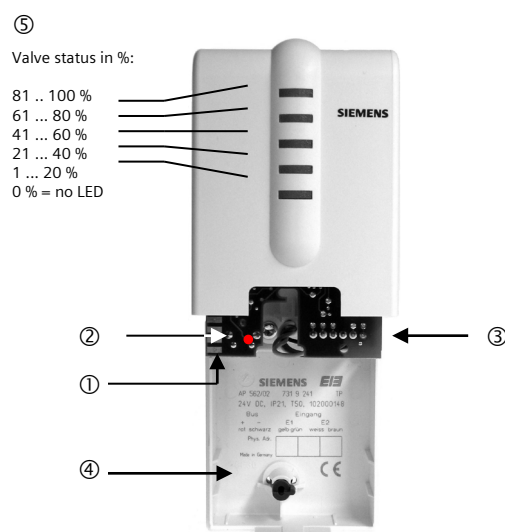

figure 1: Location of the Display and Operating Elements
The valve position is displayed by the 5 LEDs at the front side of the device. Depending on which LED is on, the valve is opened like shown at figure 1.
- Press the learning button (1, figure 1) on the device to initiate the assignment of the physical address to the device.
- The programming LED (2, figure 1) turns on to indicate the programming mode. Upon receiving the physical address, the device automatically returns to normal operating mode and the LED turns off.